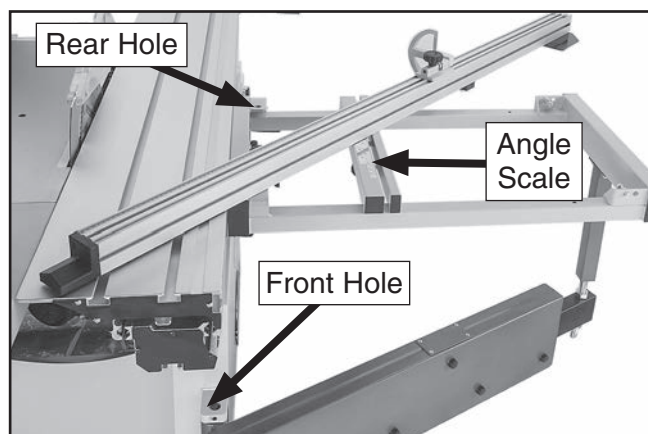
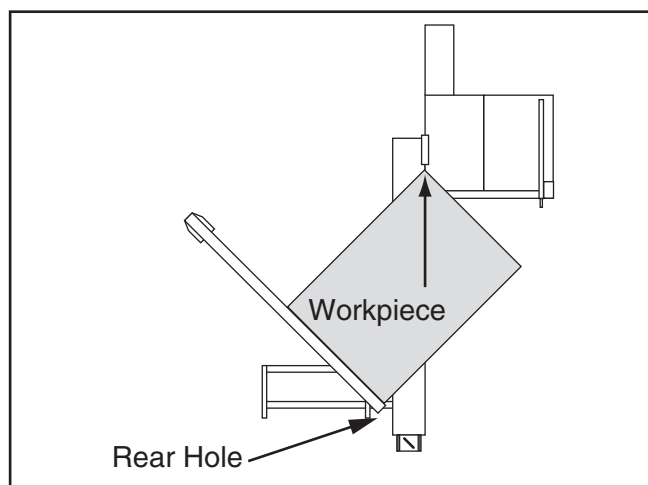

Figure 114. Crosscut fence positioned for miter cut.
Figure 115. Crosscut fence mounted in rear hole for miter cuts from 0° to 45°.
The crosscut fence can be positioned for miter cuts from 0° to 45° (see **Figure 114**) using the front or rear crosscut table holes. The angle scale on top of the crosscut table has a resolution of 1°.
3. Install fence pivot bolt into front or rear holes shown in **Figure 114** to position table for desired angle of cut (see **Figures 115–116**).
8. Load workpiece onto crosscut table. The setup should look similar to **Figures 115–116**.